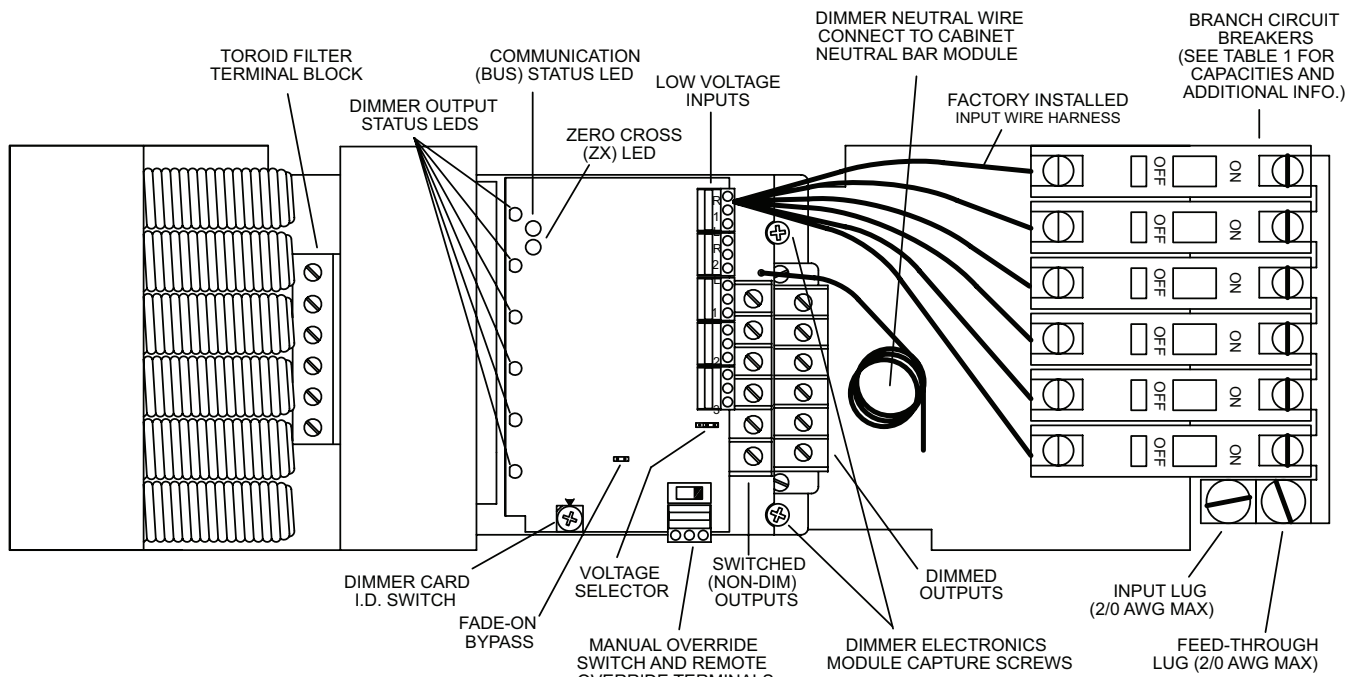

Figure 1 - Dimmer Module Layout
Rotate the dimmer card ID switch to the position indicated on the label on the side of the cabinet or as shown in Synergy supplied As-Built drawings. (See *Figure 1*) Plug the male connector on the ribbon cable into the female socket on the relay module. **Ribbon cable installs behind the modules.**
2. Verify the module "manual override switch" is in the **ON** position. (See *Figure 1*)
6. Verify the Zero Cross LED (ZX) on the dimmer module is on and blinking rapidly. (See *Figure 1*)
8. Remove the REMOTE OVERRIDE (RO) TERMINAL BLOCK (if installed) by grasping the terminal block and pulling it up and away from the circuit board.
9. Completely loosen the 6 screws on the TOROID FILTER TERMINAL BLOCK located between the heat sink and the toroids. (See *Figure 1*)
12. Unscrew the 2 captive mounting screws located on each side of the DIMMED OUTPUT TERMINAL BLOCK. (See *Figure 1*)